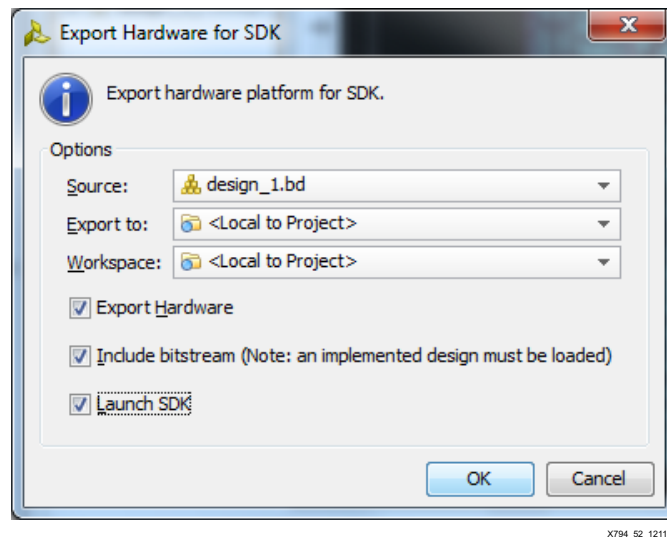

Figure 52: Export Hardware for SDK
2. Select **Launch SDK** and click **OK** (see Figure 52)